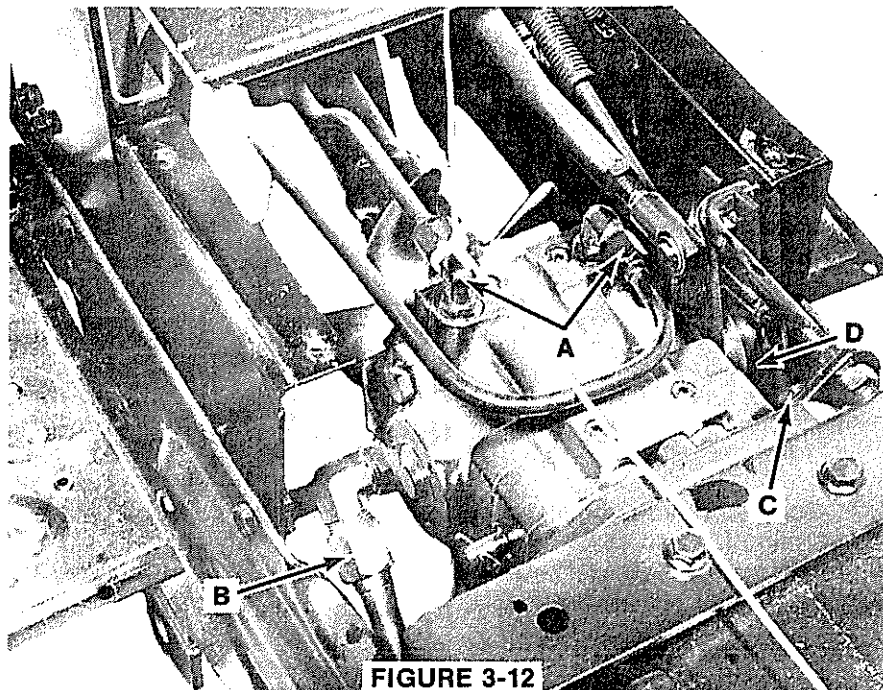

FIGURE 3-12
3. Disconnect hydraulic lines (Reference "A" fig. 3-12).
7. Drive out roll pin (Reference "D" fig. 3-12) holding linkage to control shaft. Remove linkage as an assembly.